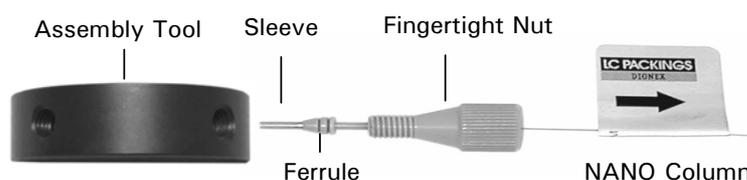

FIGURE D-1 Parts of a PEEK Sleeve Connection
The PEEK sleeve connection is created using the components shown in FIGURE D-1:
- The female fitting port of the inert valve (FIGURE D-1 shows the assembly tool required for the assembling purpose only).
- a) Slide the fingertight nut and the ferrule onto the sleeve as shown in FIGURE D-1.